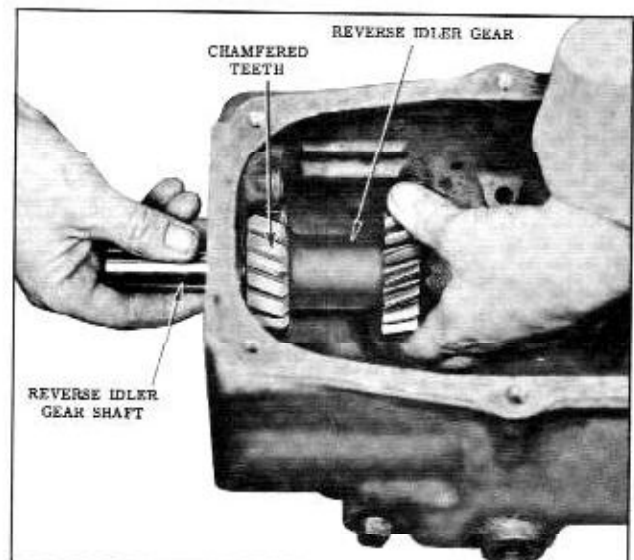

Fig. 11-28 Installing Reverse Idler Shaft
- a. Position the reverse idler gear and bronze thrust washers into the case (chamfered teeth to the rear of the case), then install the idler gear shaft (slotted end out) until the front of the shaft picks up the front thrust washer and just starts into the inner support in the case. (Fig. 11-28)